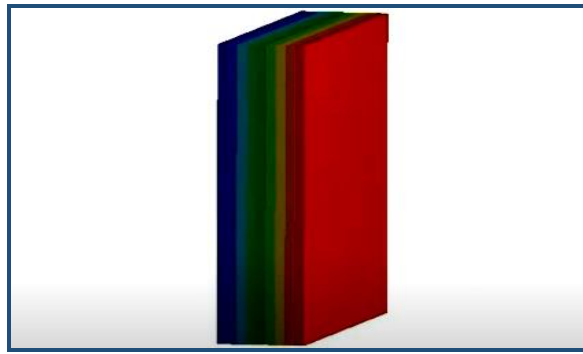

Figure 8.1: Temperature contour of a slab
5. Analyze the results using the Ansys CFD post to get the contour as shown in Figure 8.1.